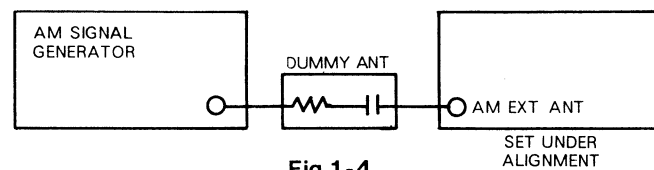

Fig.1-4
- Set up the test test equipment as Fig. 1-4.